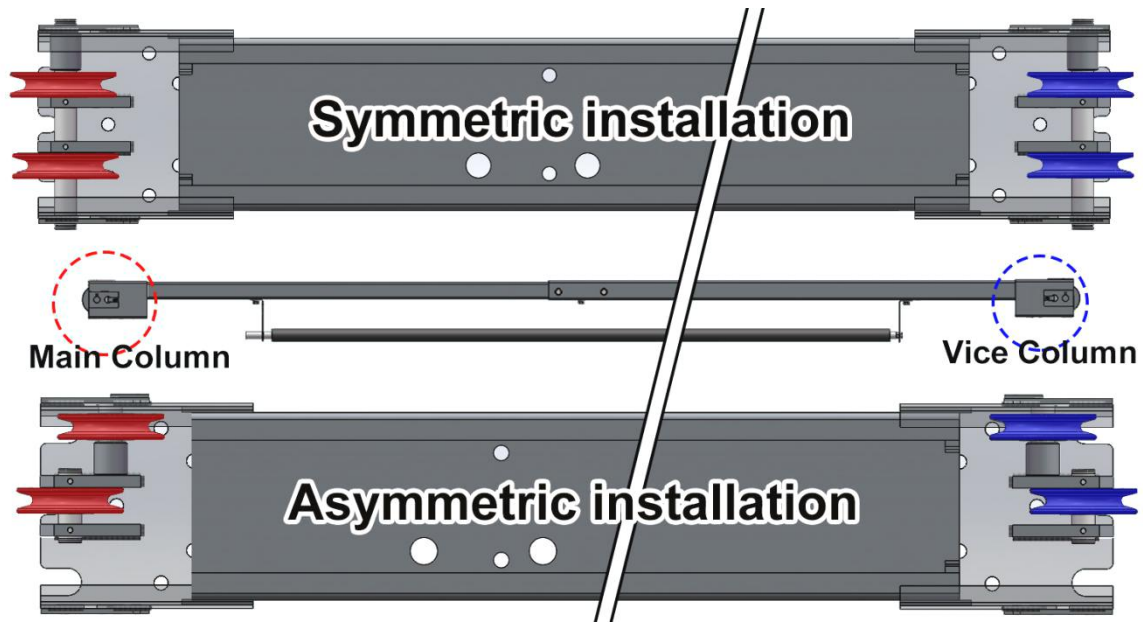
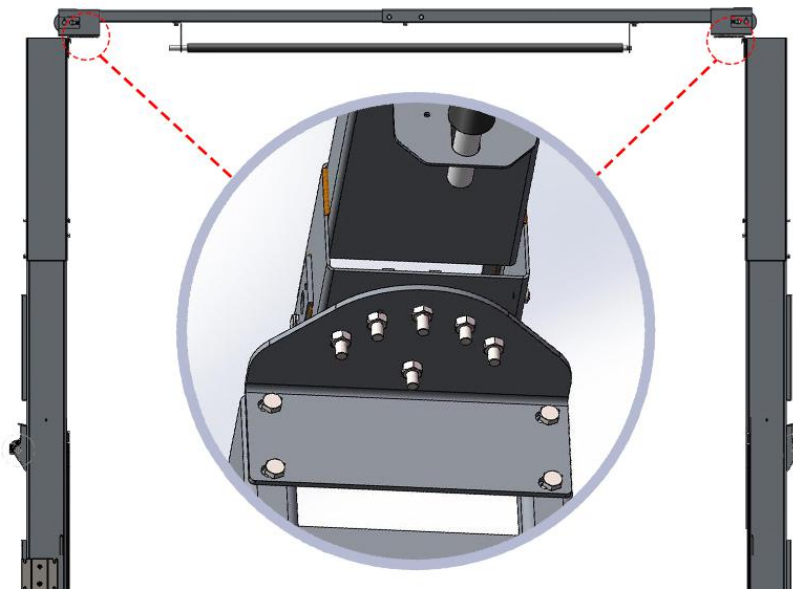
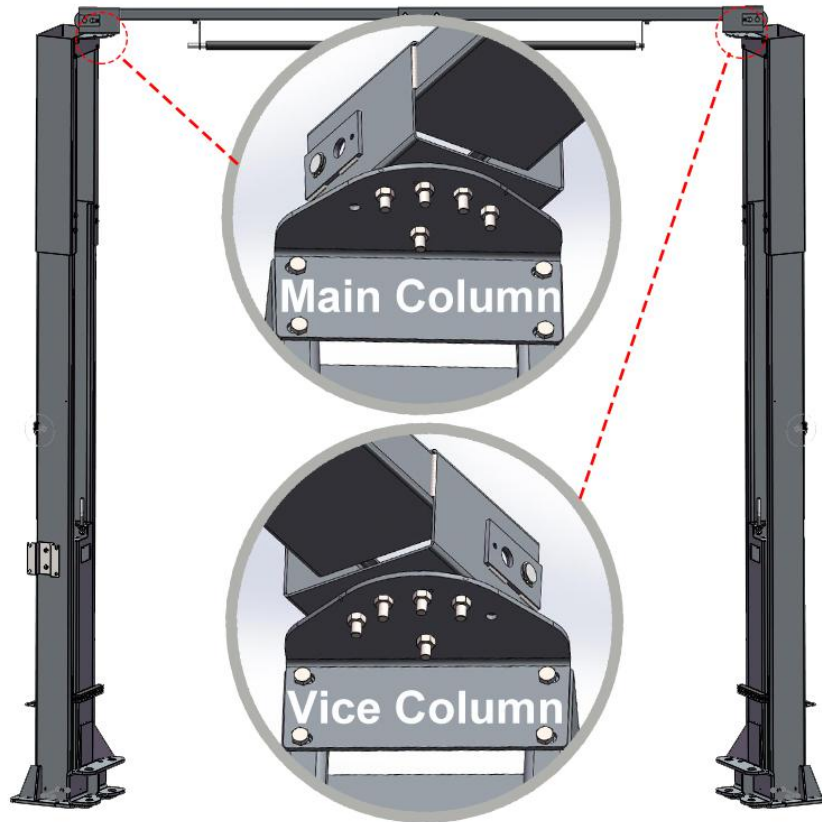

Fig 6 Cable Pulley Position
Fig 9 Symmetric Install overhead top beam
Fig 10 Asymmetric Install overhead top beam
C. Mounting position of cable pulley (Fig 6)
1. When symmetrical installation method is adopted, cable pulley (refer to Fig. 6) should be installed according in a symmetrical manner and fix the 6 screws underneath the overhead beam (Fig. 9)
2. When asymmetrical installation is adopted, cable pulley (refer to Fig. 6) should be installed according in asymmetrical manner and fix the 5 screws underneath the overhead beam (Fig. 10).